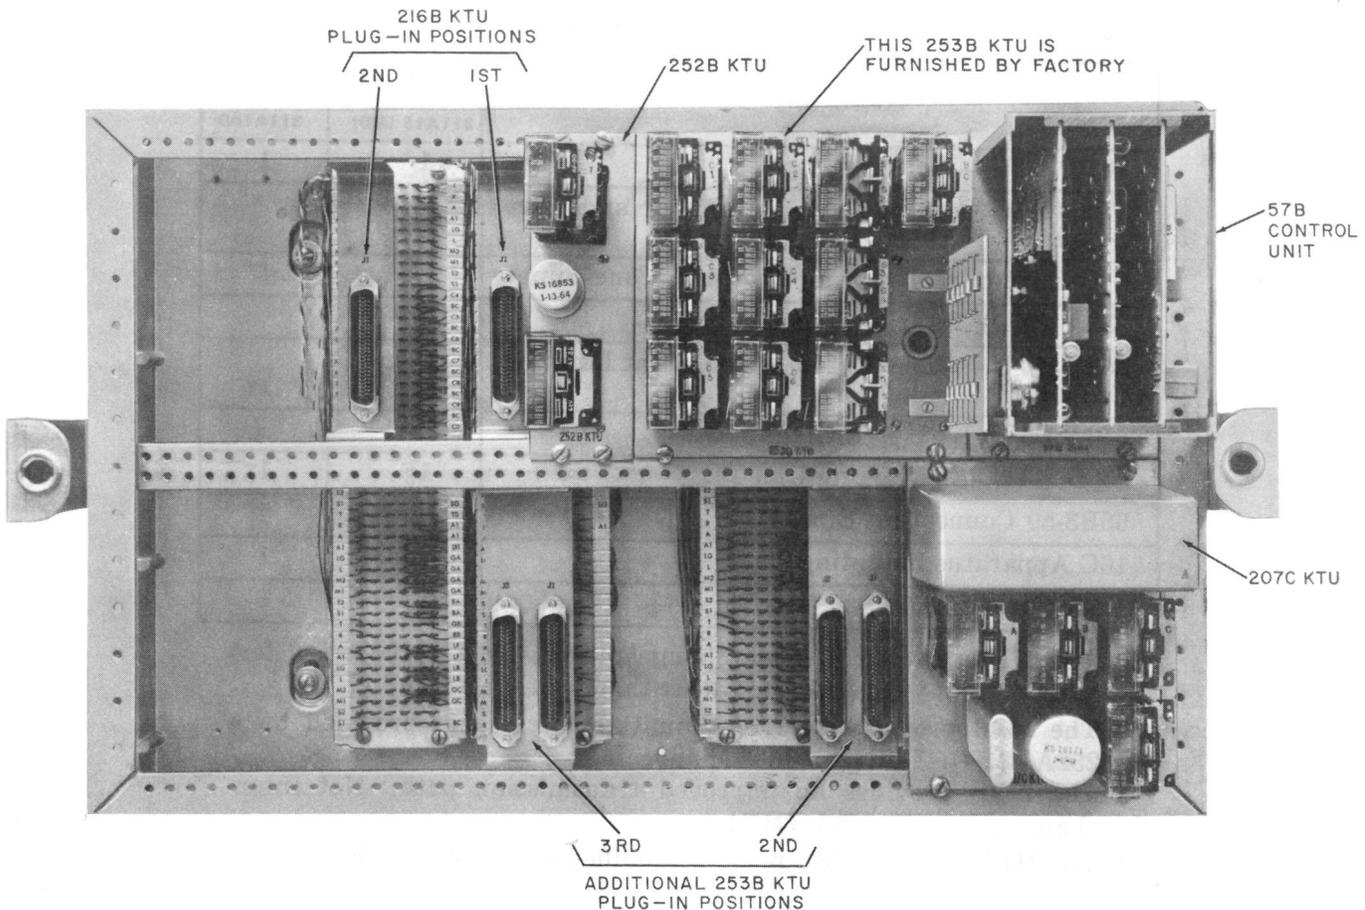

Fig. 1 — 311A16D Key Service Unit
- (1) The basic KSU package is equipped to perform switching and signaling functions for a system of up to *six stations* (first group).
- (2) Space and wiring are provided in the KSU for growth, in increments of 6, of up to 18 stations. One 253A or B and one 216B KTU must be ordered separately and plugged into their respective connectors (Fig. 1 or 2) for each additional group of six stations.
- (1) Locate KSU near associated 1A1 or 1A2 Key Telephone System. Install apparatus mounting per Section 463-140-200.
- (2) KSU is equipped for six stations. Install a 216B and a 253A or B KTU for each additional six stations (Fig. 1 or 2).
- (3) When necessary, install a distribution frame between KSU and key telephone system. Provides quick cross-connect terminal field for adding or changing lines or stations.
- (4) Inspect 57-type control unit to ensure the three printed circuit boards are properly seated.